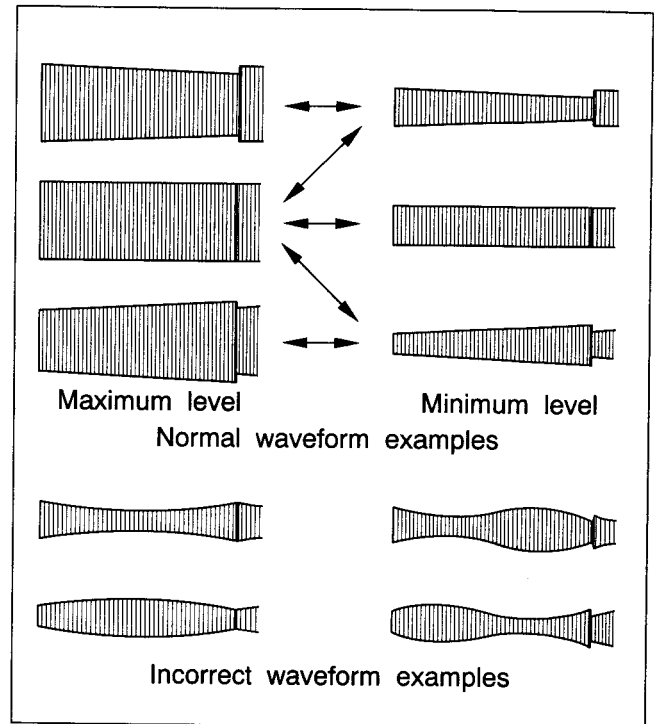

Fig. 2-7-1
- (1) Connect the oscilloscope to TP106(PB FM) on the MAIN board. Use TP111(D.FF) on the MAIN board as a trigger.
- (2) Playback the SP stairstep portion of the alignment tape [MHPE]. Confirm that the FM waveform appears as indicated in Fig.2-7-1.
- (3) Set the manual tracking position by pressing the **///** button on the remote controller or TV PROG "-" and "+" buttons simultaneously.
- (4) Operate the tracking adjustment (press the TV PROG buttons during playback) and set for maximum playback FM waveform.
- (5) By operating the TV PROG button, vary the FM waveform from maximum to minimum and vice versa to confirm that the waveform varies nearly in a flat shape as shown in Fig.2-7-1.